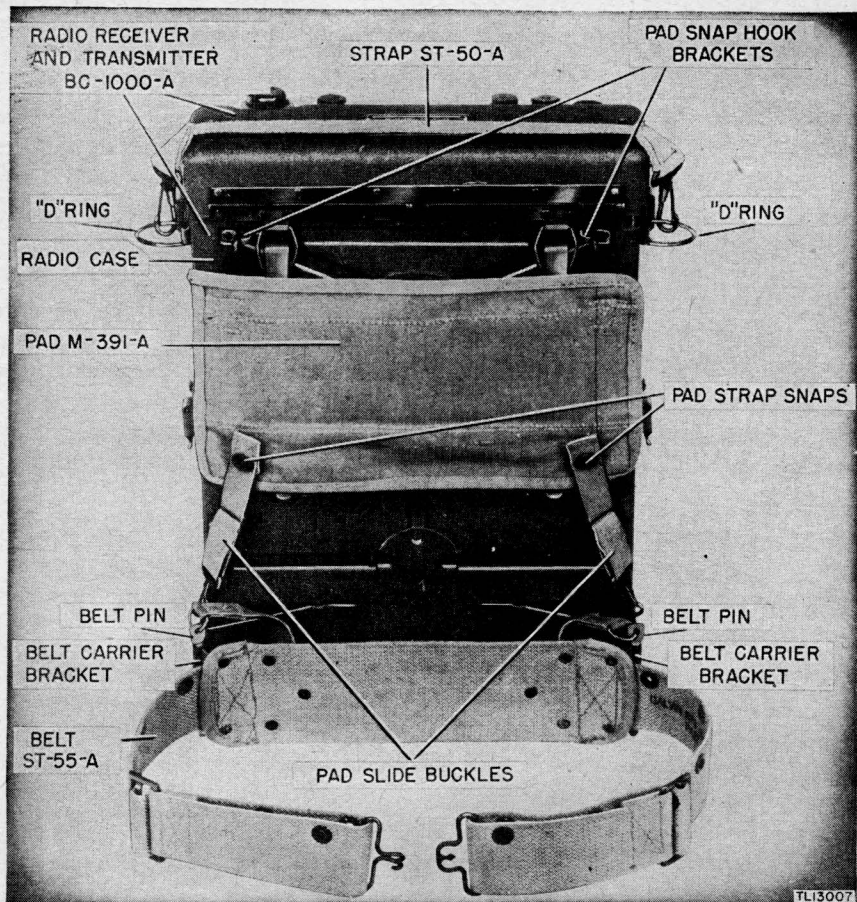

Figure 12. Radio Set SCR-300-A, assembly of Pad M-391-A, Belt ST-55-A, and Strap ST-50-A—rear view.
a. PAD M-391-A. This pad has four snap hooks which hold the pad in place on the radio set. Connect the top snap hooks to the pad snap hook brackets near the top of the radio case. Connect the bottom snap hooks on the adjustable straps to the holes nearest the case on the belt carrier bracket. (See fig. 12.) Adjust the slide buckles on the lower straps after installation, so that the pad lies flat against the back of the set housing.
b. BELT ST-55-A. This belt is equipped with two pins permanently attached by short straps. Fasten the belt to the hook brackets with these pins, so that the reinforced eyelet holes are on top. (See fig. 12.)